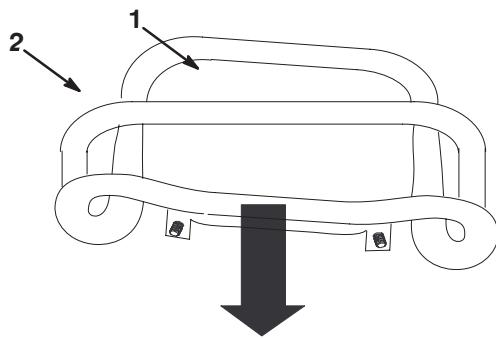

Figure 23
3. Pull straight back on the traction control so the front of the control contacts the reference bar (Fig. 23).